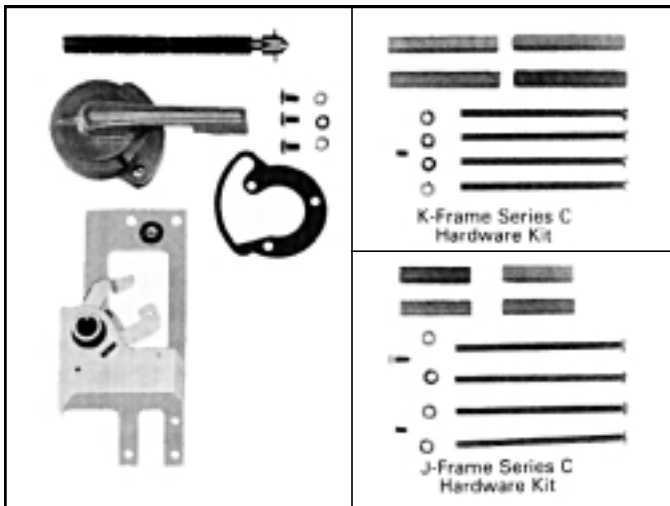

Fig. 2-1 Handle Mechanism Components
- 2-1. Inspect the handle mechanism for completeness. (See Fig. 2-1.)